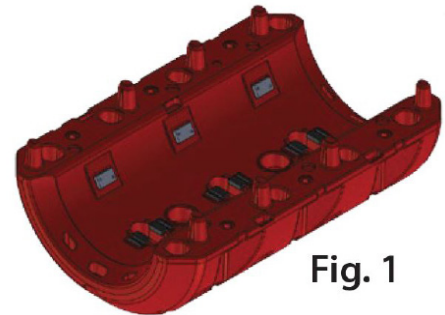

Fig. 1
1. Place one half of the Pipe Float on the ground (Fig. 1)